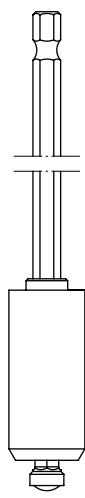

Fig. 3
- 13) Clamp the tube (E) in a vice with the opening upwards.
- 15) Fit the charging ring (J) on the charging screw (H). Note: The charging ring is symmetric and works in any orientation.
- 16) From inside the tube (E) using the special tool from the tool kit (see Fig. 3) or use a standard blade screwdriver and thread the screw / ring assembly into the valve port.